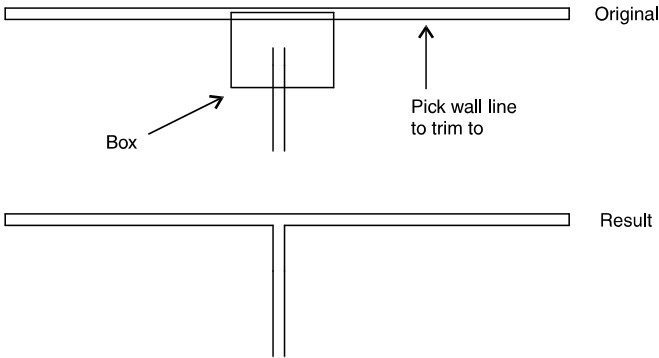

Figure 12.11: Cleaning a T-shaped intersection.
5. Click on the wall line to trim to (see Figure 12.11). The intersection is cleaned.